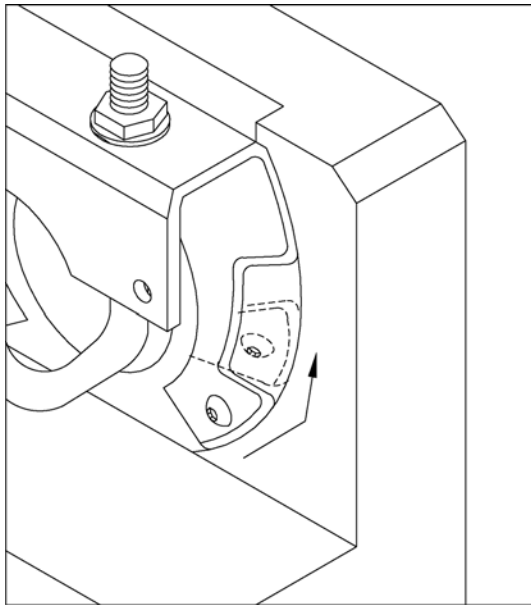

Figure 11. Motor Calibration
11. Activate motor until blade reaches desired opening and tighten the setscrew. Figure 11 shows setscrew location.